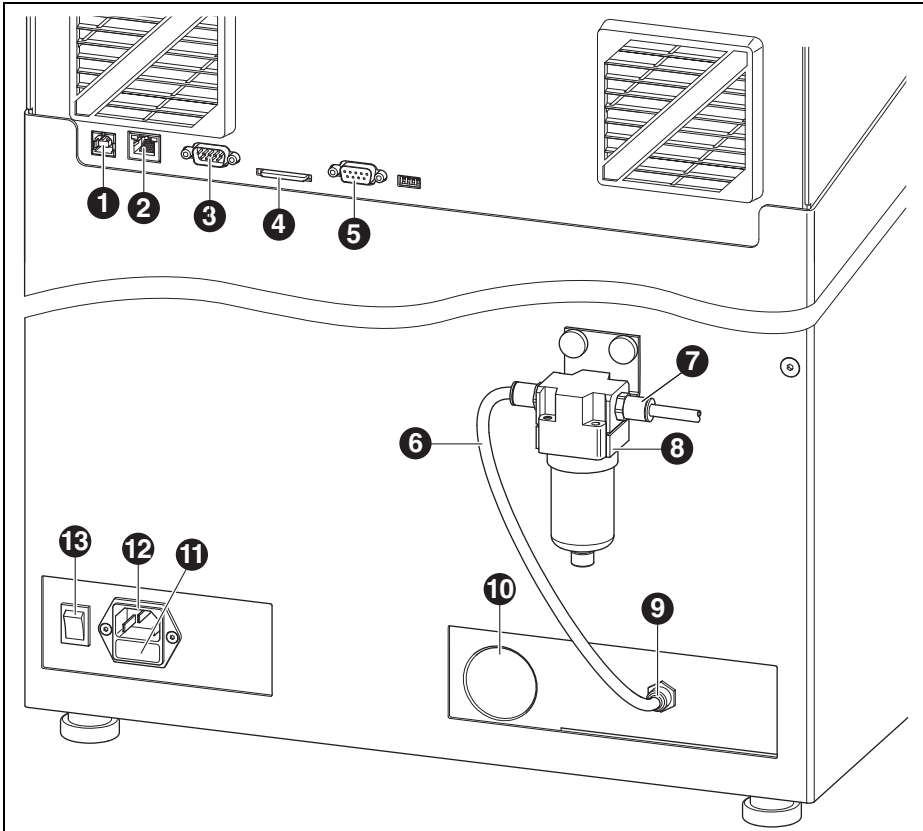

Fig. 2 Machine overview, rear
- ▷ Pull out the fuse compartment ([11] in Fig. 2 on page 7) below the mains plug.